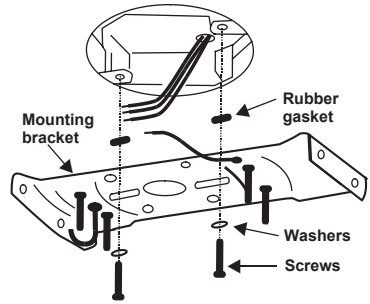

Figure 4
1. ATTACH THE MOUNTING BRACKET to the outlet box with two screws and washers provided, making sure the bracket is tight and secure. (Fig. 4)